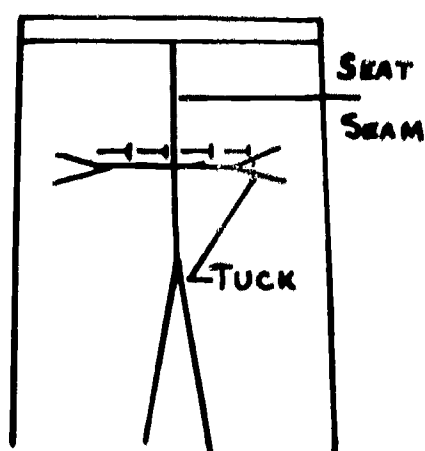

Figure 70.
1. The amount to be taken out of the crotch will usually be marked by a tuck, which is pinned across the back of the trouser (see Figure 70).